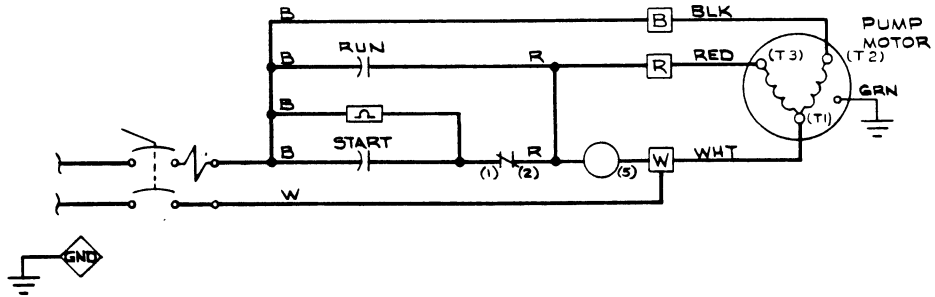
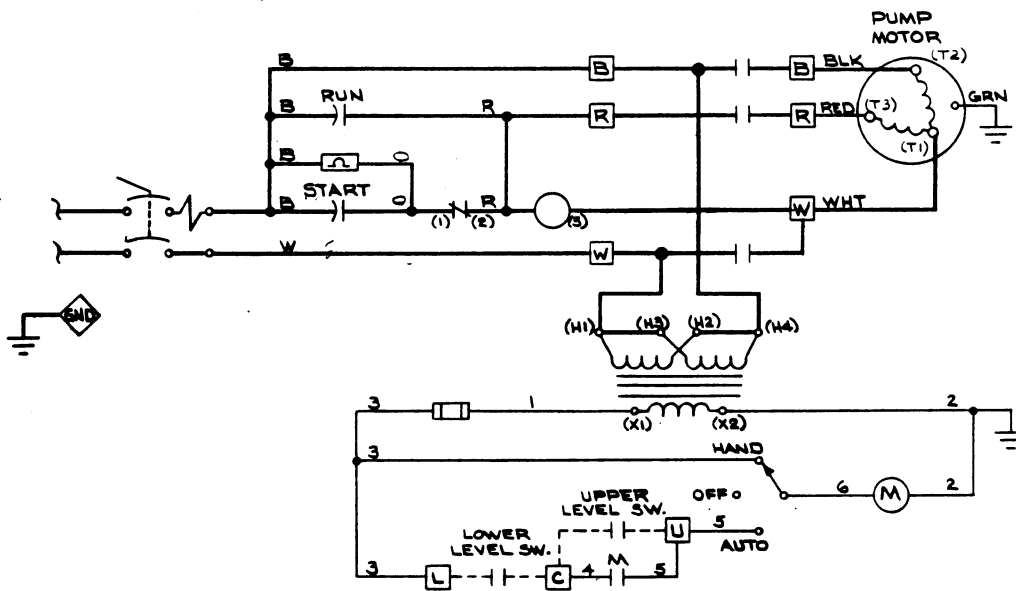
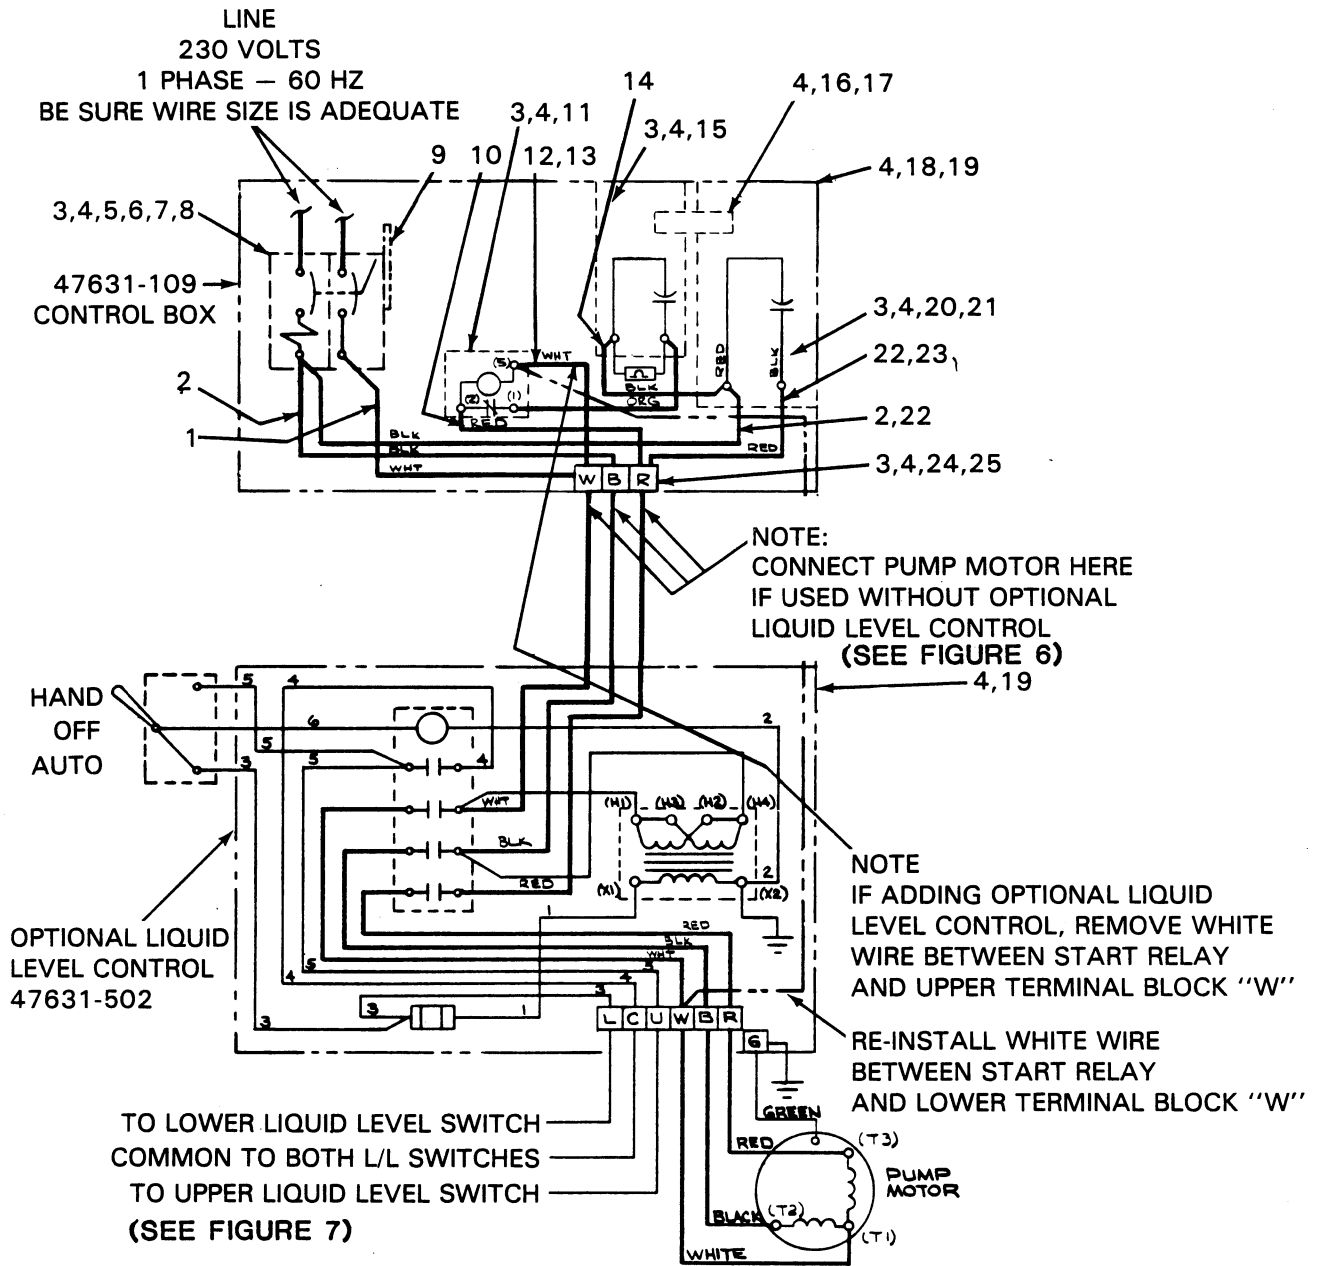

Figure 6. Elementary Wiring Diagram (Without Liquid Level Controls)
Figure 7. Elementary Wiring Diagram (With Liquid Level Controls)
Figure 8. 47631-109 Control Box Assembly - Pictorial Wiring Diagram
- a. Measure the incoming voltage across lines (1 & 2.) while the pump is **operating at full capacity**. See Figure 6 on page B-14 or Figure 8 on page B-15.
Connect the pump power cable to the control box as shown in Figure 6 on page B-14 or Figure 8 on page B-15. Use conduit or cable clamps to secure the power and
If liquid level controls are to be installed, connect the motor power cables and level control power cables as shown in Figure 7 and Figure 8 on page B-15.
See Figure 8 on page B-15 for a pictorial wiring diagram and callouts of the control box assembly internal parts.